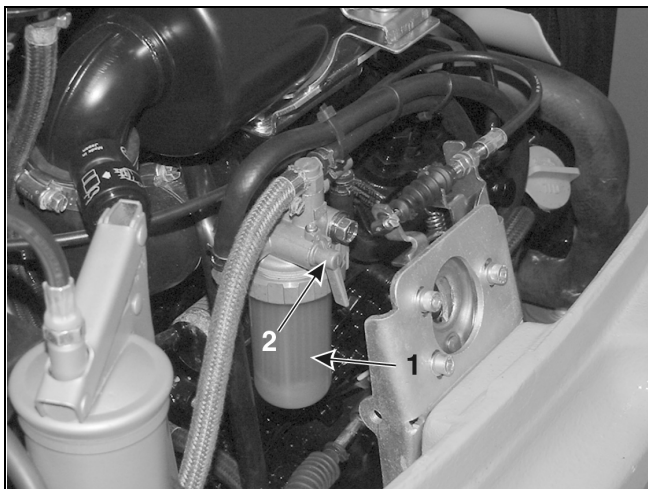
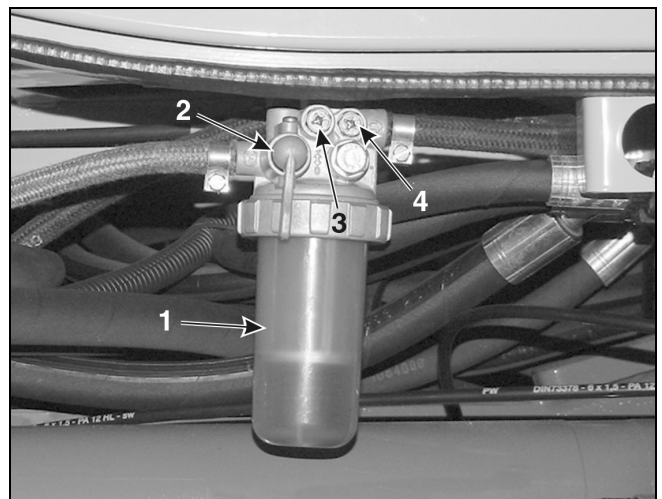

Figure 4-11 – Fuel Filter (Earlier Machines)
Figure 4-12 – Water Separator (Earlier Machines)
2. Make sure that the valve on the water separator valve (2, Figure 4-12) and on the fuel filter (2, Figure 4-11) are in the “open” (O) position.
- a. Bleed air by loosening the air bleeding screws on the water separator (3 and 4, Figure 4-12).